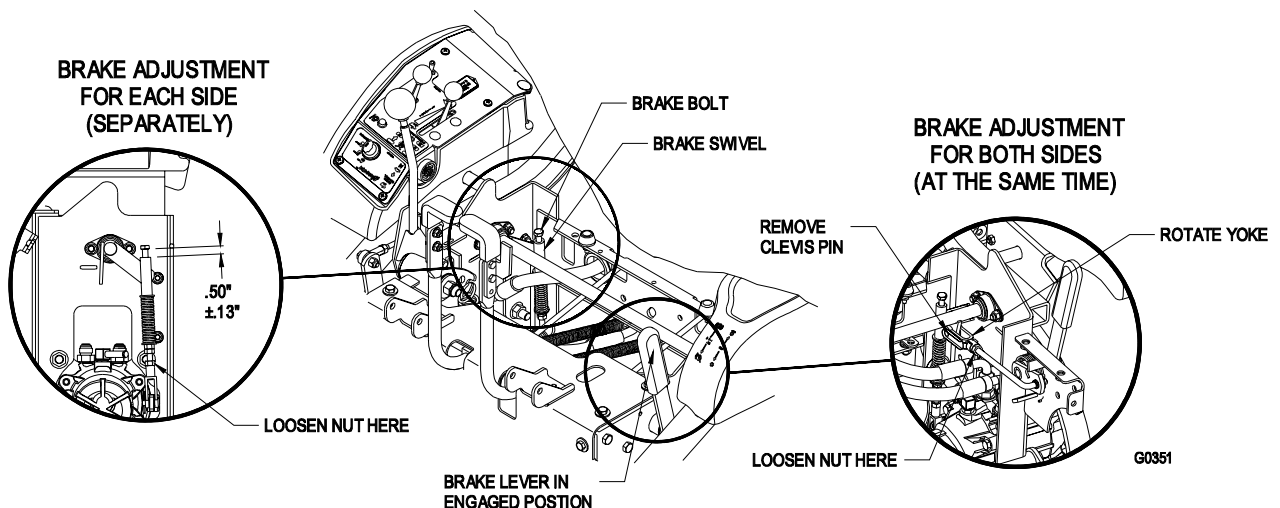

FIGURE 12
- b) A gap must exist between the bottom of the brake bolt head and the top surface of the brake swivel as shown in Figure 12. If a gap does not exist, adjust the linkage to a maximum gap of $0.5" \pm 0.13"$ (1.3 cm \pm 0.33 cm) as shown.
- c) The brakes on both sides can be simultaneously adjusted by lengthening or shortening the linkage shown in Figure 12.